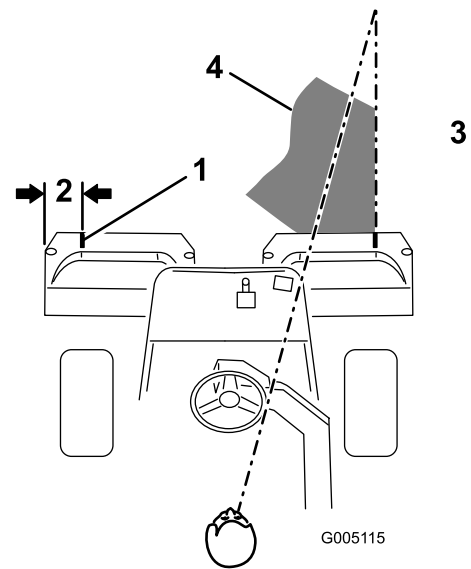
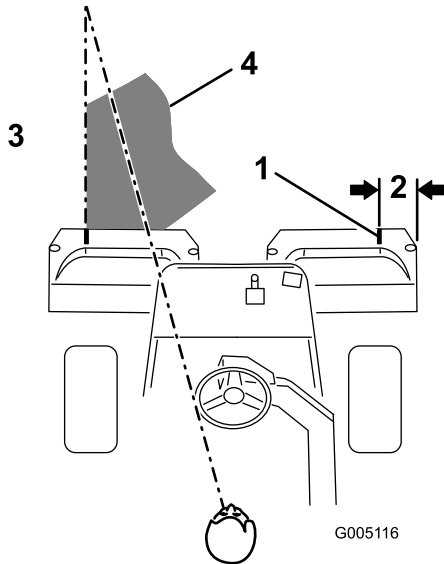

Figure 30
Figure 31
- Either place a strip of white tape or paint a line onto each basket paralleling the outer edge of each basket (Figure 30).
3. Overlap a minimal amount with the previous cut on return passes. To assist in maintaining a straight line across the green and keep the machine an equal distance from the edge of the previous cut, establish an imaginary sight line approximately 1.8 to 3 m (6 to 10 ft) ahead of the machine to the edge of the uncut portion of the green (Figure 30 and Figure 31). Some find it useful to include the outer edge of the steering wheel as part of the sight line; i.e. keep the steering wheel edge aligned with a point that is always kept the same distance away from the front of the machine (Figure 30 and Figure 31).